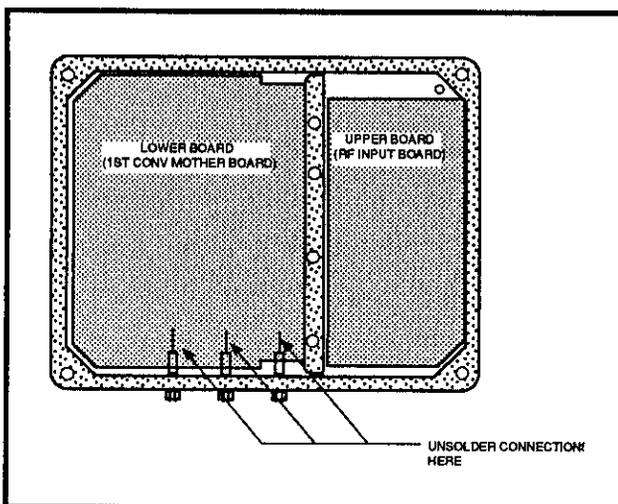

Figure 5-8. 1st Converter with the cover removed.
7. Unsolder all connections at the external power-supply-coupling capacitors (Figure 5-8), and remove the coupling capacitors from the assembly. Be sure to make a note of which wire goes where.